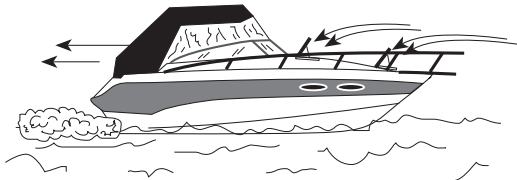

FIGURE 1.8 DESIRED AIR FLOW THROUGH THE BOAT
- 4 Opening and closing ports, hatches, doors, and windows may raise or lower CO levels on board a boat. (See Figures 1.8 and 1.9.)